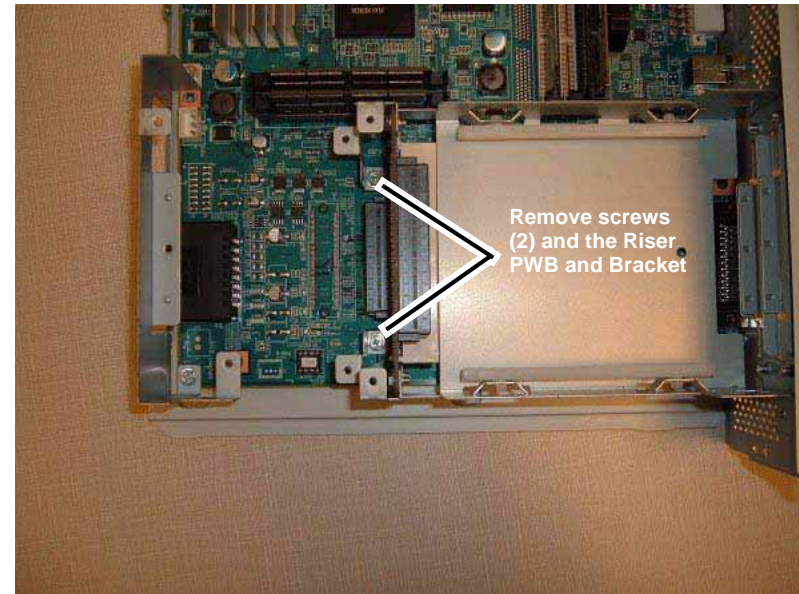

Figure 4 Removing the Riser PWB and Bracket
5. Remove the Riser PWB and Bracket (Figure 4).